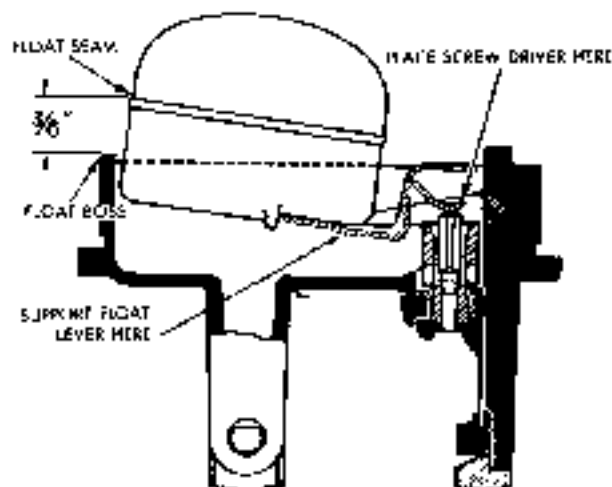
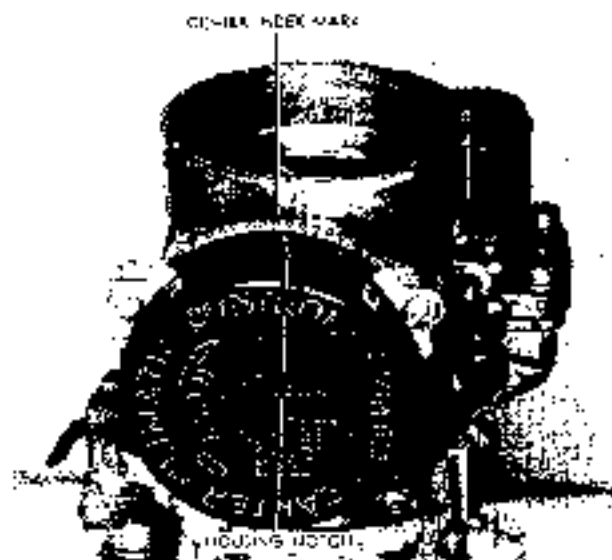

FIG. 354
FIG. 355
The disassembly, cleaning and inspecting, and the re-assembly procedures are the same for the new series carburetor as for the 1947 model. There are, however, two adjustments that differ from the previous model carburetor. They are (1) the float level adjustment which is $3/8$ -inch instead of $1/4$ -inch (see Fig. 354) and (2) the automatic control setting which is one notch lean instead of on the center index mark (see Fig. 355).